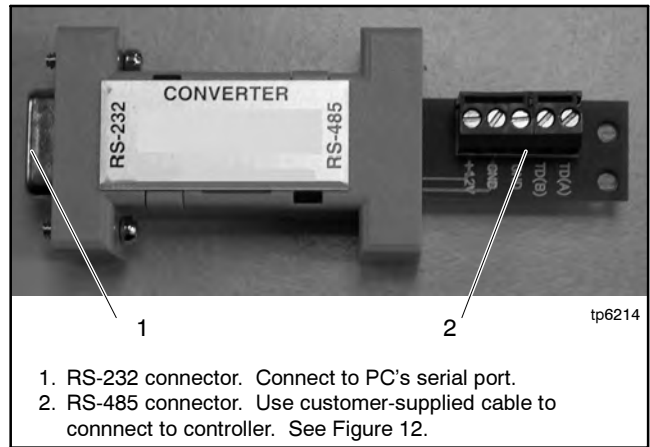

Figure 10 RS-232 to RS-485 Converter (available from the factory)
4. Connect the RS-232 side of the RS-232 to RS-485 converter to the serial port on the PC. See Figure 10.